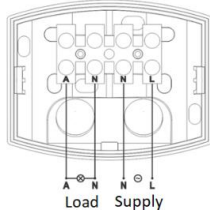

Figure 2
4. Terminate the supply and load conductors into the terminal block ensuring the correct polarity is observed (Figure 2).